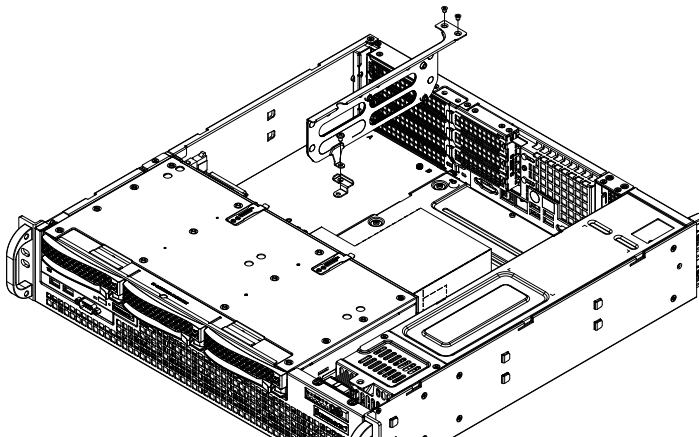

Figure 5-16. Riser Card Bracket
4. Insert the riser card(s) into the motherboard expansion slot(s) while aligning the riser card bracket with the rear of the chassis. Secure the bracket with screws (Figure 5-16).